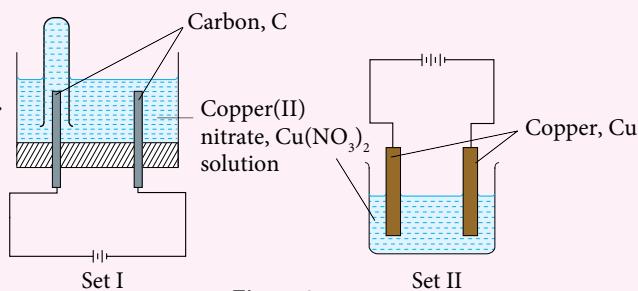

Figure 3
7. Figure 3 shows two sets of apparatus used to study the electrolysis of copper(II) nitrate solution.